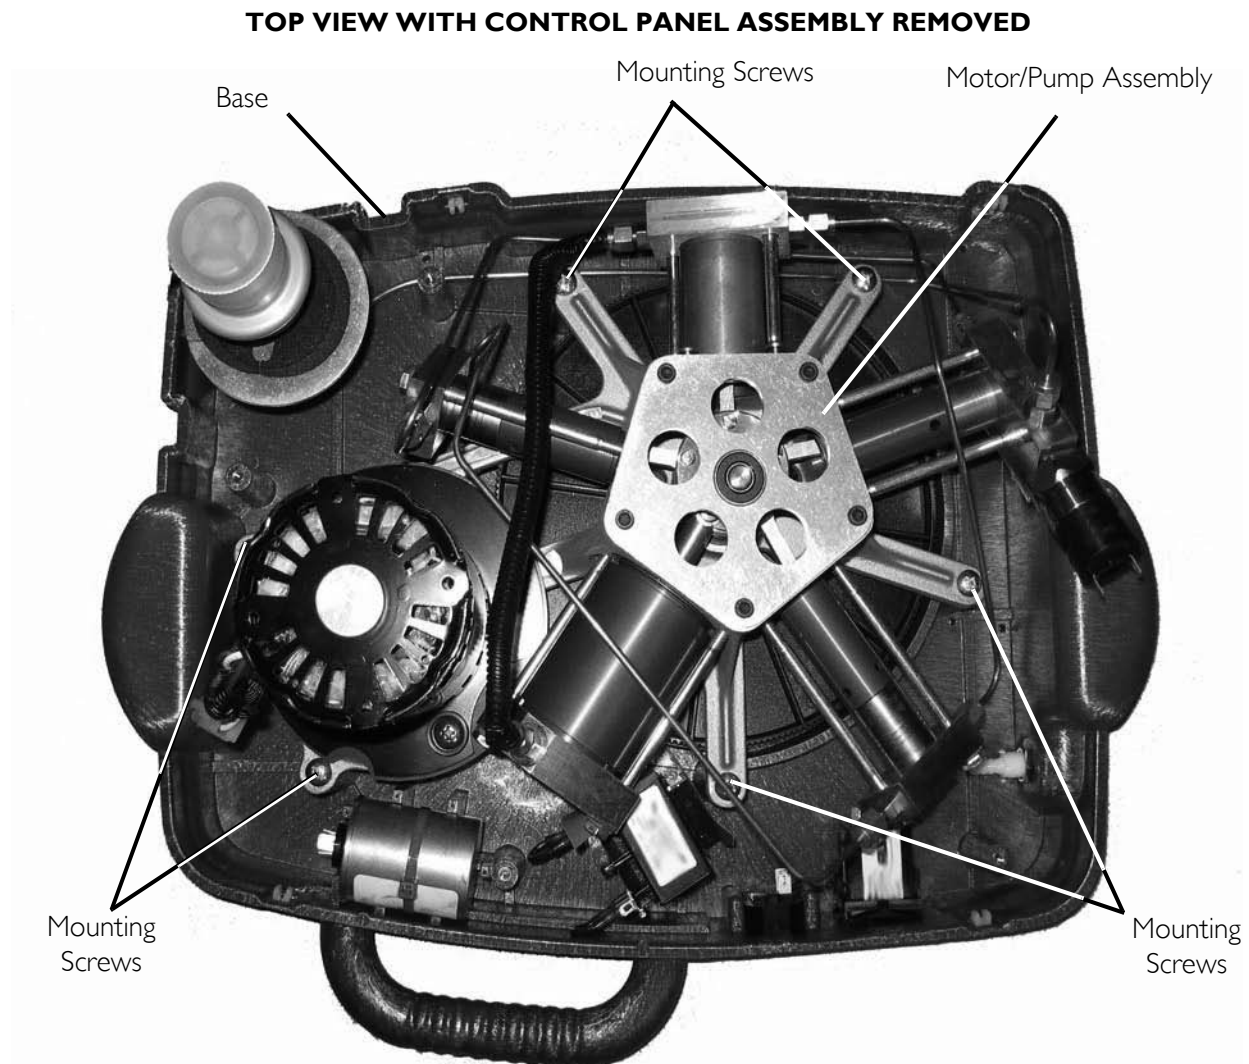

FIGURE 9.5 Motor Replacement
23. Remove the six mounting screws that secure the pump/motor assembly to the base (FIGURE 9.5).
6. Position the motor/pump assembly on the base (FIGURE 9.5).
7. Secure the pump/motor assembly to the base with six mounting screws. Torque mounting screws to 2.82-3.79 Nm (FIGURE 9.5).